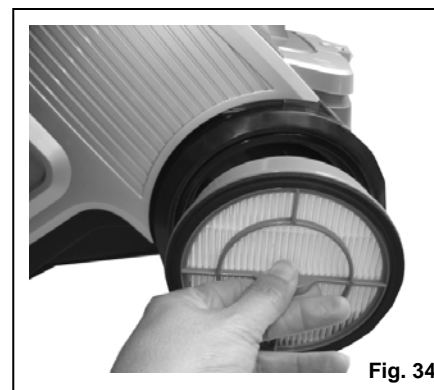

Fig. 34
4. Hold the HEPA filter by the center frame and lift it out. (Fig. 34)